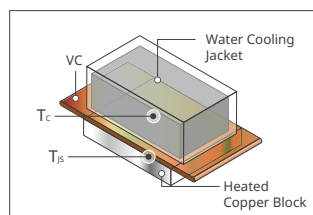

Figure 3. The schematic diagram of the water-cooling jacket VC and its heating copper block
The VC performance measurement method is based on the standard <TTMA-VC-2017> set by the Taiwan Thermal Management Association. The performance measurement of VC is to use the condensation water jacket to take away heat. The measured performance indicators of the VC at the set operating temperature T_C are the axial thermal resistance $R_{th,Z@T_C}$ of the VC, the radial thermal resistance $R_{th,R@T_C}$ of the VC, the junction temperature $T_{JS@T_C}$ of the heated copper block and the maximum heat transfer of VC $Q_{max@T_C}$. A high-power heated copper block is used to simulate IC chip heating. It is usually used to simulate and measure the usage of VC in computer CPUs, GPUs, and servers. As shown in Figure 3, the VC is heated from the bottom, and a water-cooling jacket is used on the upper of the VC to dissipate heat. The center temperature (operating temperature T_C) of the VC at cold plate and the temperature $T_{JS@T_C}$ of the contact between the surface of the heated copper block and the hot plate of the VC are used to calculate the axial thermal resistance $R_{th,Z@T_C}$. During measurement, record the changes in axial thermal resistance $R_{th,Z@T_C}$ of VC at the set operating temperature T_C under different heating powers (W). When the axial thermal resistance reaches the lowest value, the heating power is $Q_{max@T_C}$ at operating temperature T_C . As shown in Figure 4, when the heating power is 350W, the axial thermal resistance reaches the minimum value, and the $Q_{max@T_C}$ of this VC is 350W.